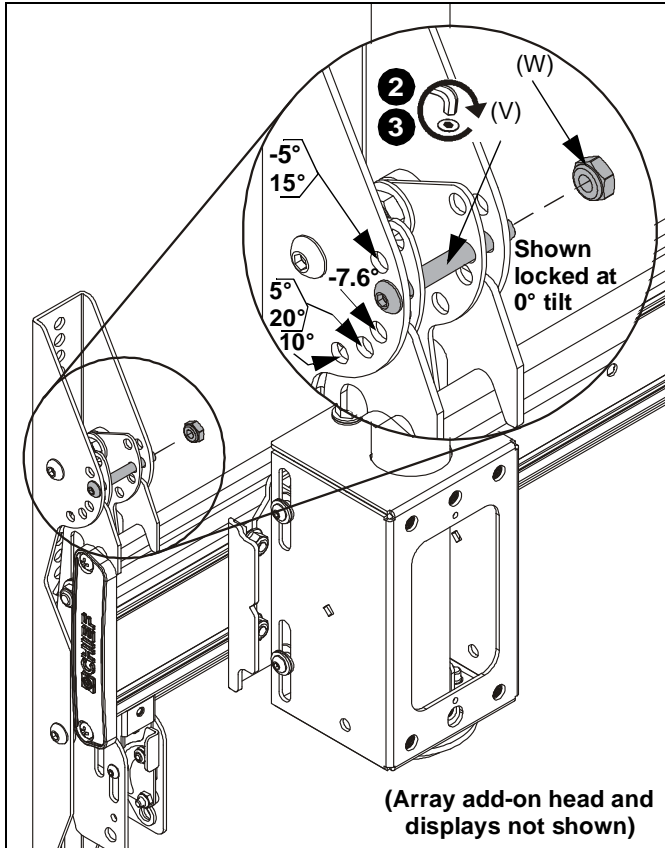

Figure 17
1. Adjust tilt as required. (See Figure 17)
2. The tilt may be locked using one 1/4-20 x 2" button head screw (V) and one 1/4-20 lock nut (W) per interface bracket. (See Figure 17)